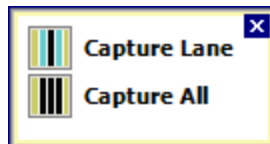

Figure 6.4 – Capture Popup
2. Click on the lane a second time to bring up the Capture pop-up window (see Figure 6.4)